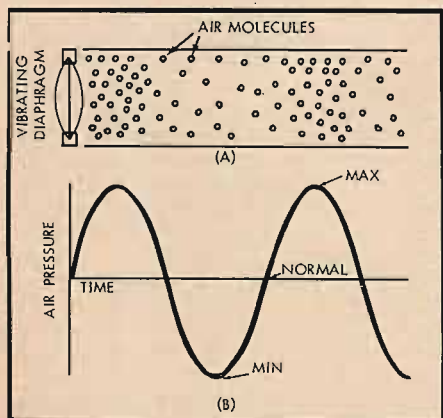

Fig. 1-1 (A) Alternate compression and rarefaction of air caused by sound. (B) The physical picture of (A) represented symbolically by a graph.
It is easy to draw a picture of a transverse wave which will reveal its characteristics; we merely take a cross-sectional side view of the medium at any particular moment. It is more complicated, however, to make a pictorial representation of a longitudinal sound wave. We would have to show the particles alternately compressed and rarefied, as in (A) of Fig. 1-1, and since we could only show a few particles the picture would be a crude one. Therefore we abandon pictorial representation and substitute a symbolic graph, as in (B) of Fig. 1-1. Where the graph line crosses the horizontal axis the medium is in its normal, undisturbed state; where the graph reaches its peak height the medium is compressed to a maximum degree; and where the graph reaches the bottom of its "trough" the medium is at maximum rarefaction.
The third feature which must be taken into account is the shape of the graph, or the *wave form*, which determines timbre. The graph of Fig. 1-1 is that of a sound created by the simplest of vibrations. It is called a sine wave. It is found relatively rarely in nature and has a tone which has little interest musically. The tone produced by blowing across the top of a bottle is of this type, except for its noise component. The characteristic timbre of various musical sounds is associated with a characteristic wave form, and it is this element which will immediately allow us to differentiate the oscilloscope pattern of one sound from another.